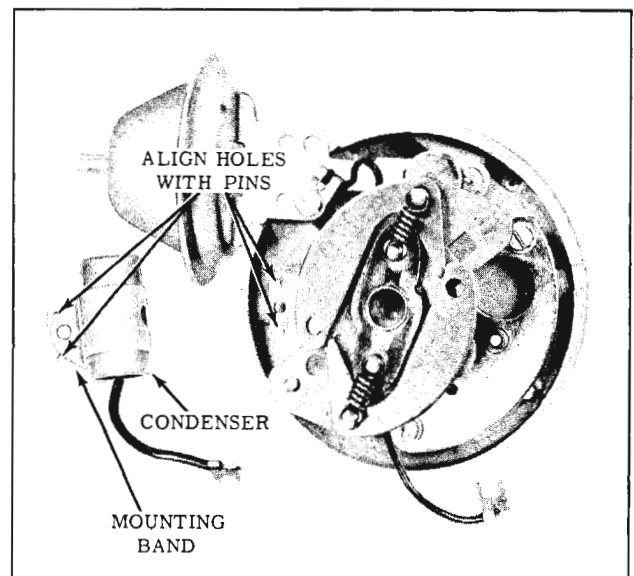

Fig. 14-121 Condenser Installation
1. Place condenser and mounting band in position on the breaker plate alignment pin and install mounting screw. (Fig. 14-121)